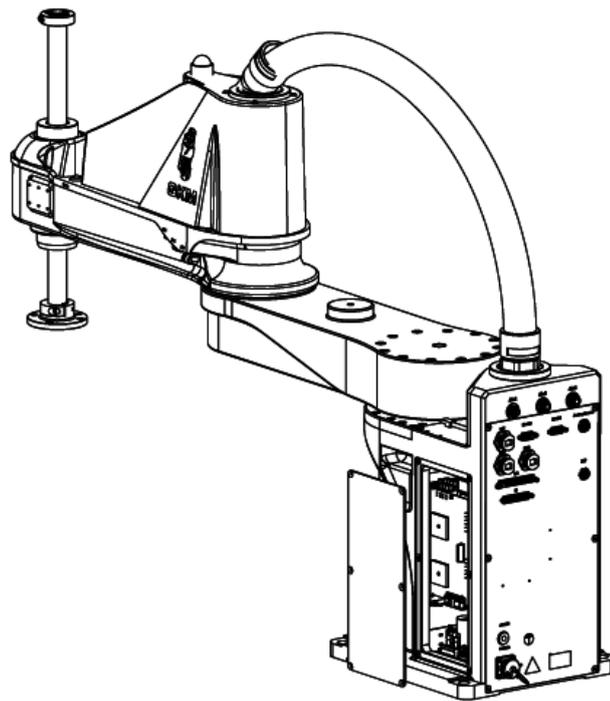

Figure 4-9 Take out the side door of the base
Step 2 Take out the side door of the base, as shown in Figure 4-9.